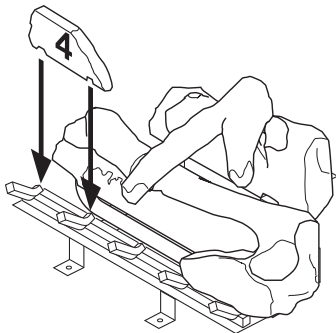

Figure 44 - Installing Log No. 4
5. Place log #4 (small log) onto the front left part of the grate making sure the notches fits over the prong of the grate. See Figure 44.